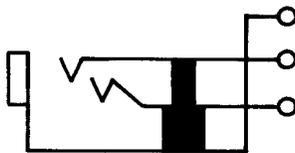

Fig. 15—238-Type Jack
2.15 238A, C, AM, and CM: These single-mounted jacks (Fig. 15) are used with 150, 184, 213, 262, 310, 320, 331, 338, and 349 plugs. These are heavily insulated jacks. These jacks are mounted with the springs in a vertical plane.